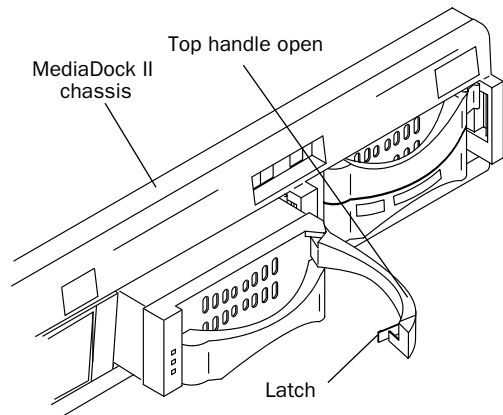

Figure 15. Letting the MediaDock Shuttle spin down
- 2 Release the latch and open the handle on the shuttle to disengage the shuttle from the backplane (see Figure 15 on page 21).
- 6 Release the latch and open the handle on the shuttle to disengage the shuttle from the backplane (see Figure 15 on page 21).